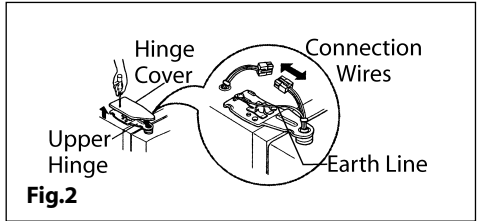

Fig.2
- * Loosen the screws in the upper hinge cover and remove. Separate all connection wires, except for the earth line (Fig.2).